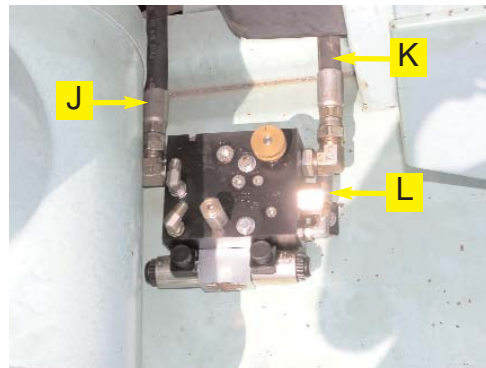

Figure 4a. Installed pressure, excess flow and tank hoses at automated steering block (ST models).
- a. Connect the pressure hose (**K**) from the **P** port on the automated steering block to the open fitting on the hydraulic flow divider. Connect the excess flow hose (**J**) from the **EF** port on the automated steering block to the open fitting on the valve stack. (Figure 4a. and 4b.)
- b. Install the hydraulic adapter fitting (**I**) to the tank run tee (**H**). Connect the tank hose (**K**) from the **T** port on the automated steering block to the adapter fitting (**I**). (Figure 4a. and 4b.)